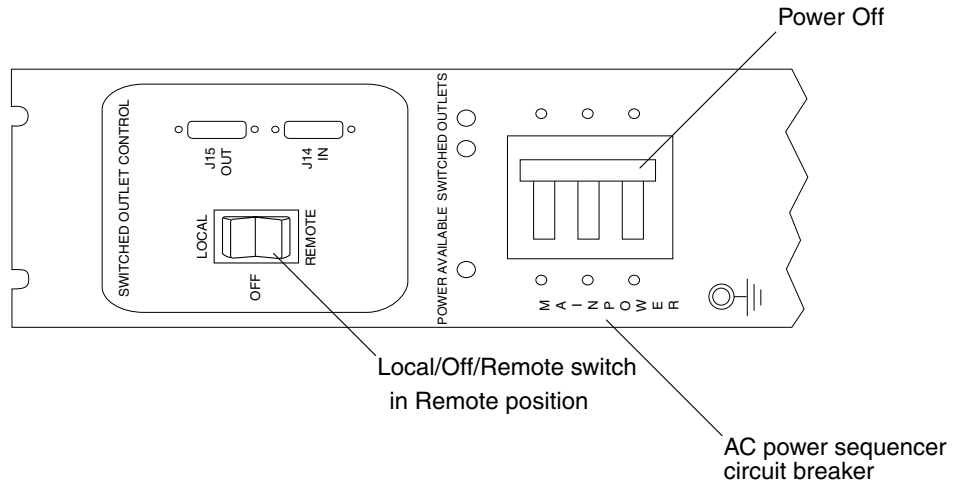

FIGURE B-7 Rear Power Sequencer Control Panel
1. Verify that the AC power sequencer circuit breaker is in the Off position (FIGURE B-7).
2. Verify that the Local/Off/Remote switch is in the Remote position of each power sequencer in the base cabinet and expansion cabinet (if applicable) (FIGURE B-7).